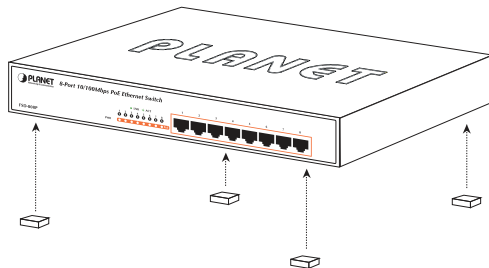

Figure 3-1: Attaching the Rubber Feet to the PoE Fast Ethernet Switch
Step 1 Attach the rubber feet to the recessed areas on the bottom of the Switch as shown in Figure 3-1.